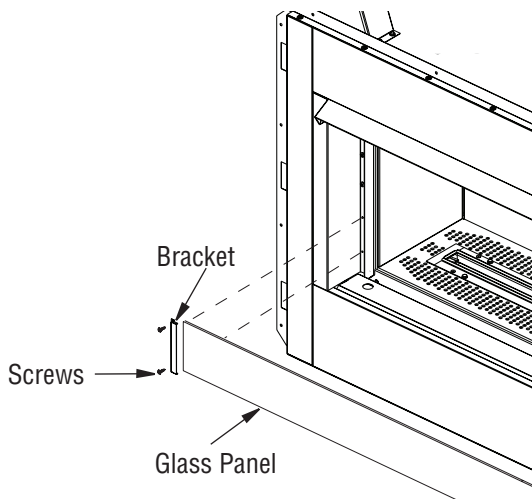

Figure 25a - Installing/Removing Glass Panel
The glass panel assembly should be installed after the fireplace is completely framed and finished. The brackets are attached to the front side face of the fireplace using two screws as shown in *Figure 25a*. Position the glass panel in the bracket so that it is securely in place.
3. Remove glass panel if installed (see *Figure 25a*).